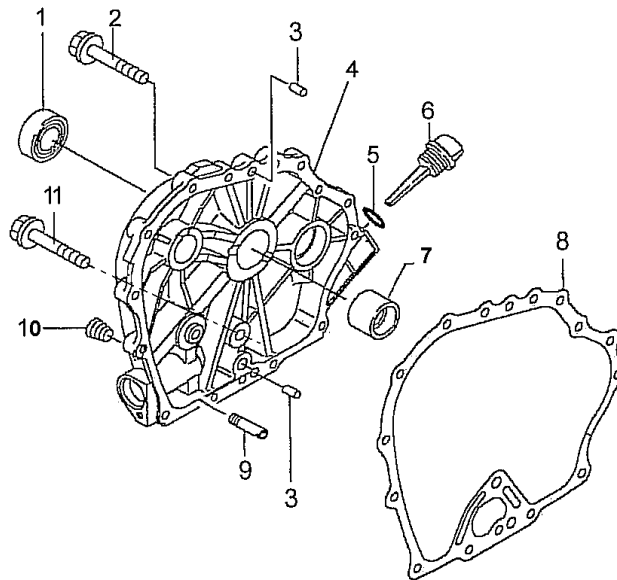

Figure 1. Crankcase Cover.
2. Disassemble the crankcase cover (4) from the engine by removing fourteen screws (2) and stiffener bolt (11). See Figure 1.